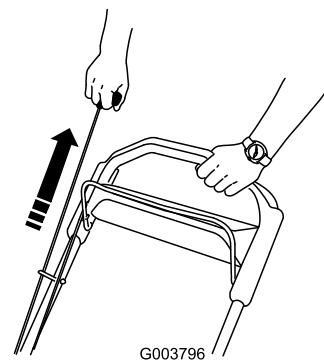

Figure 19
- Pull the recoil starter in the operating position (Figure 19).